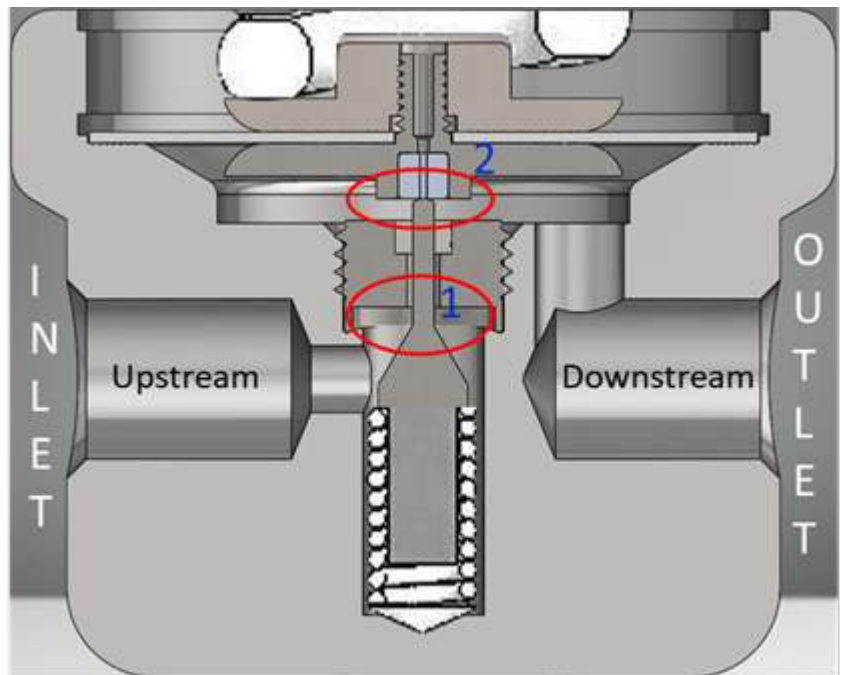

Figure 1: Self-Relieving Valve in Closed Position
Figure 1 also illustrates all gas regulators (PRV's) in the closed position. When a gas regulator is installed and operating, closure occurs when flow stops. The main valve plug seats against the valves Soft Seat main orifice preventing upstream gas from leaking through (1).
After closing, if the downstream pressure increases for any reason (equalization leakage, for example) to a point where it is higher than the set point ($P_2 > \text{set point}$), the excess pressure (3) will overcome the set point main spring force and push the diaphragm assembly off the top of the Upper Stem exposing the orifice in the PTFE Insert (4). The excess downstream pressure will vent through the PTFE orifice, through the passage in the diaphragm assembly (5) and into the spring housing. Once the excess pressure is vented, the diaphragm assembly will return to its normal resting position on top of the stem, sealing the orifice in the PTFE insert. See Figure 1, (2).